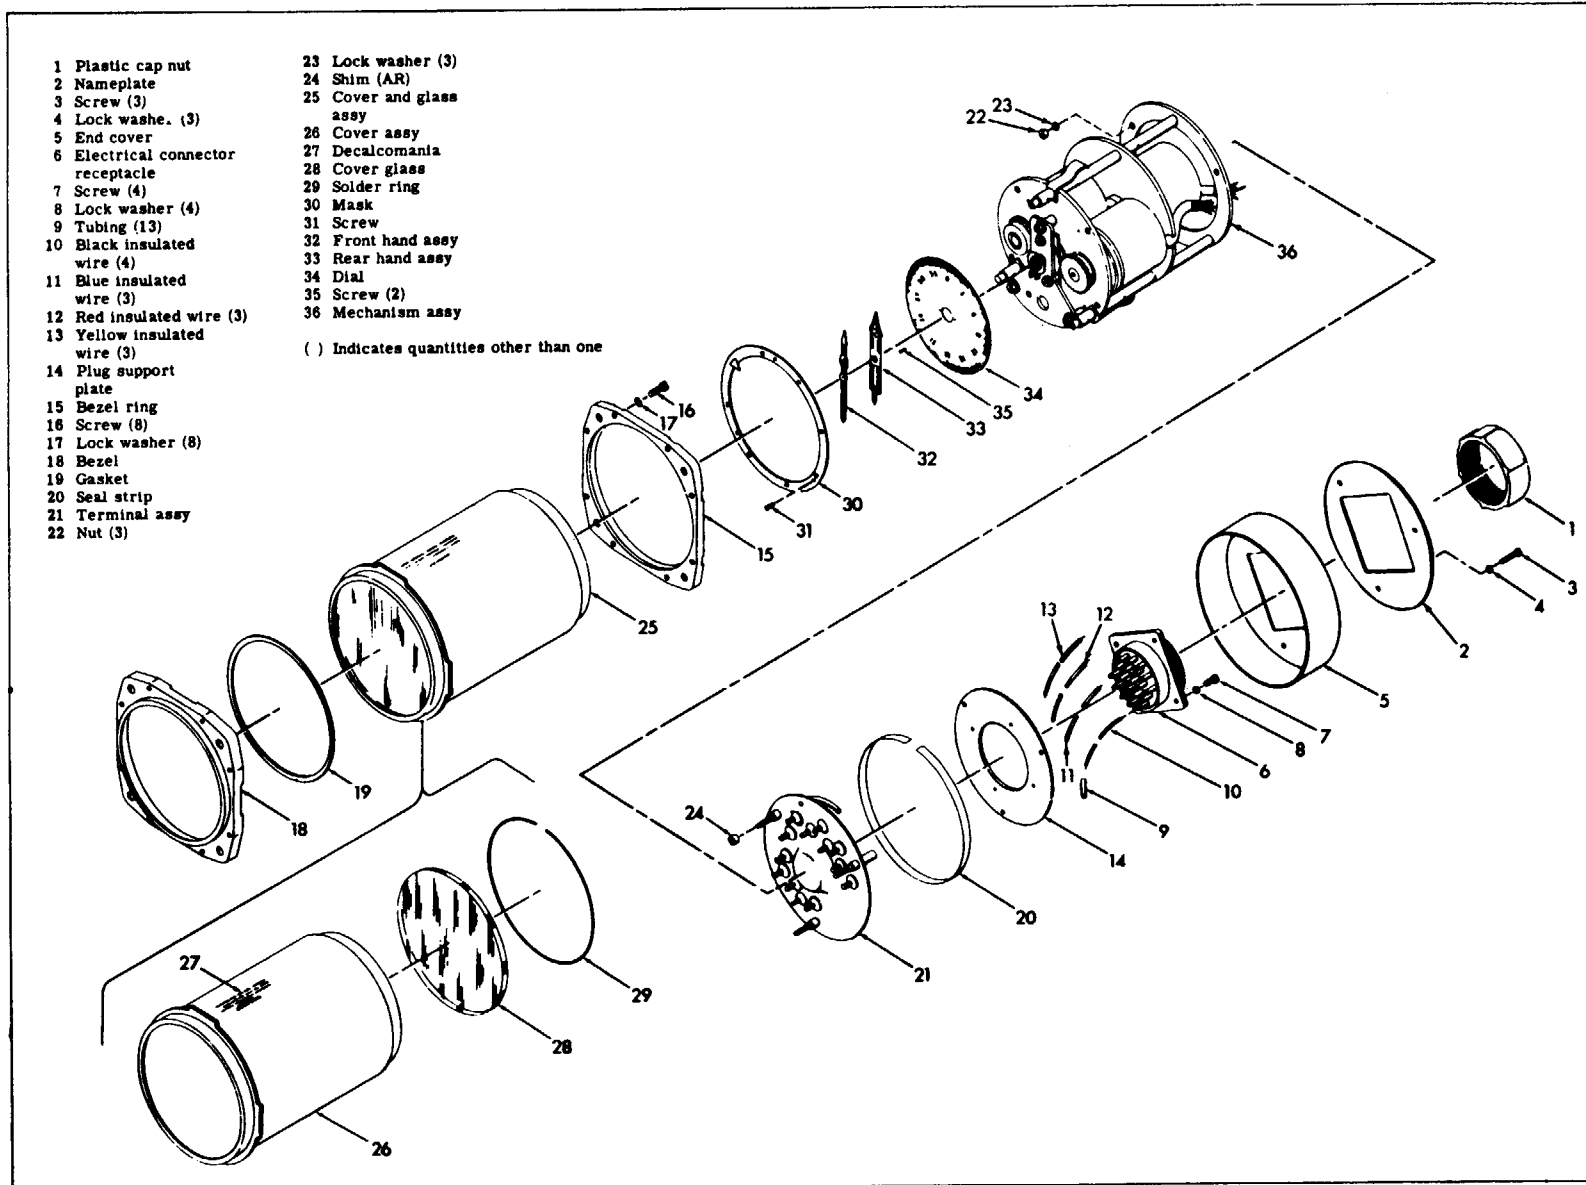
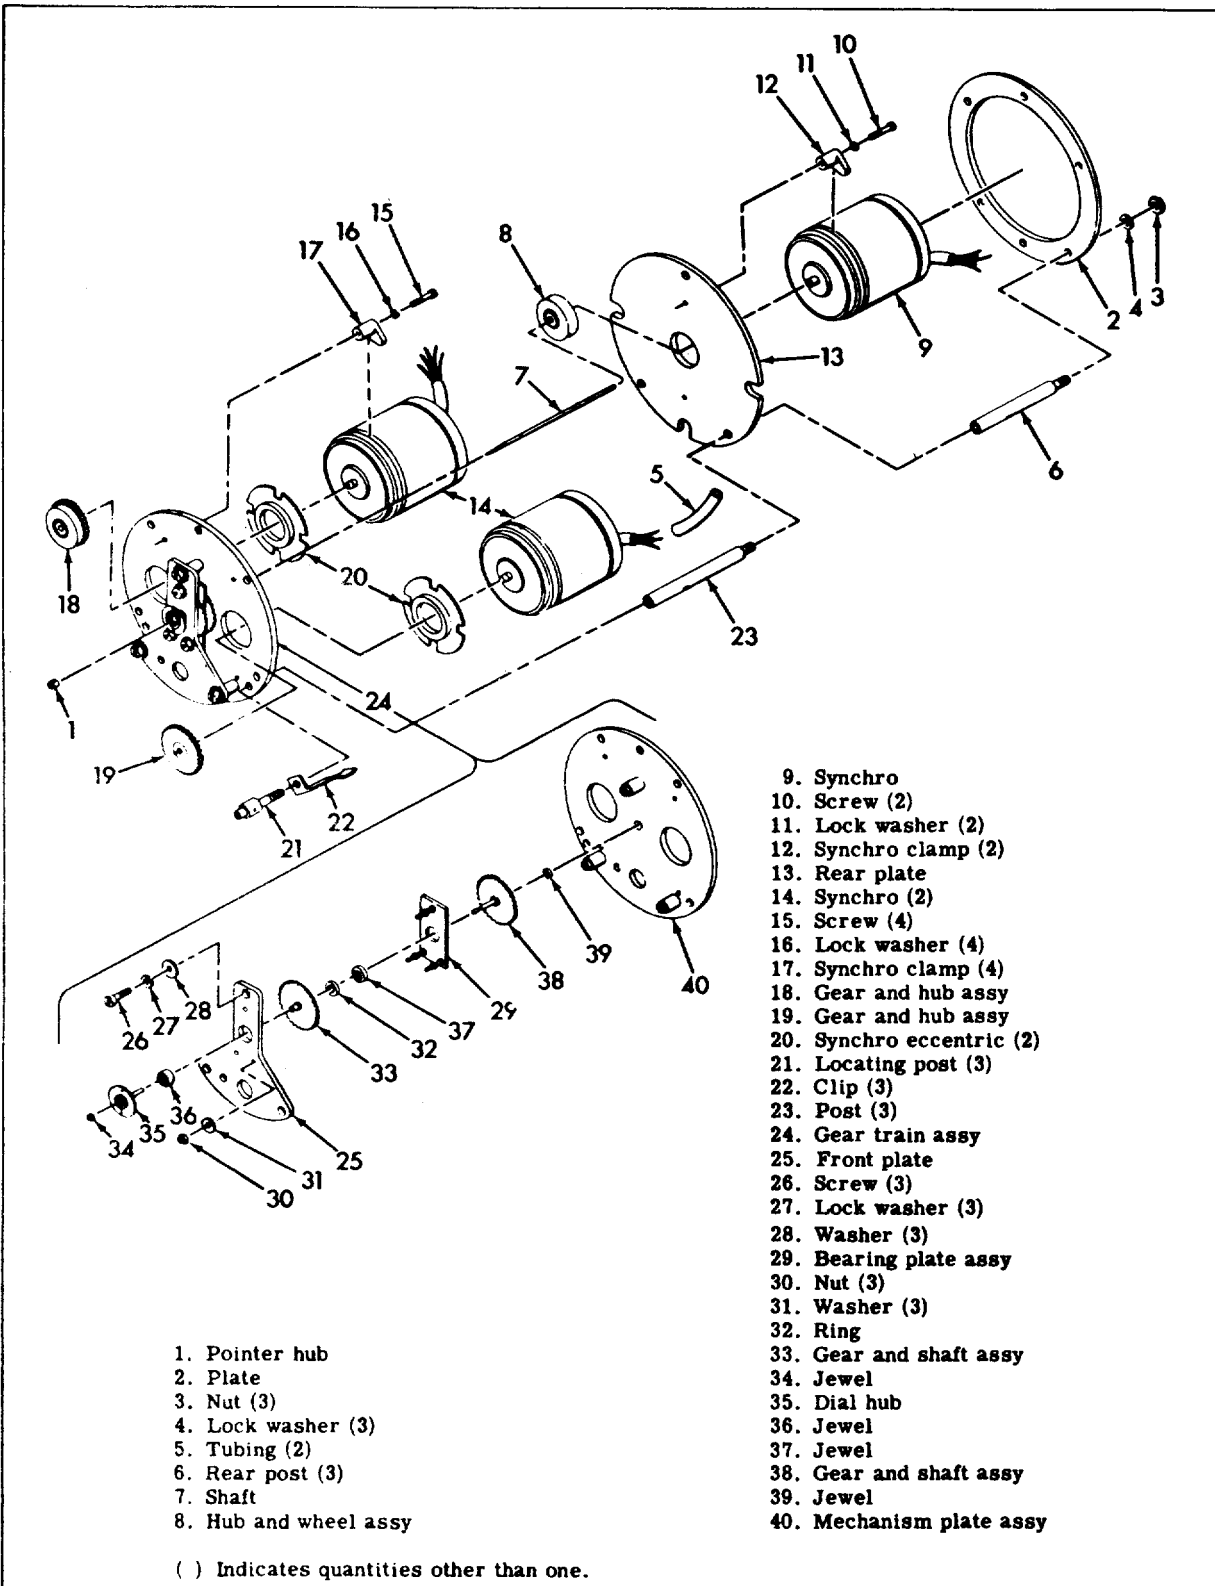

Figure 2-1. Main Assembly, Exploded View
Figure 2-2. Mechanism Assembly, Exploded View
2-6. DISASSEMBLY OF NAMEPLATE, END COVER, AND ELECTRICAL CONNECTOR RECEPTACLE. (See figure 2-1.)
2-7. DISASSEMBLY OF BEZEL, TERMINAL ASSEMBLY, COVER AND GLASS ASSEMBLY. (See figure 2-1.)
**2-8. DISASSEMBLY OF MASK, DIAL, AND HAND ASSEMBLIES. (See figure 2-1.)**
a. Remove three screws (31) and mask (30).
c. Remove two dial screws (35) and dial (34) from mechanism assembly (36).
**2-10. REMOVAL OF REAR SYNCHRO AND REAR PLATE. (See figure 2-2.)**
a. Remove pointer hub (1) from gear and shaft assembly (38). Remove three nuts (3), three lock washers (4), and plate (2). Remove two pieces of tubing (5). With index prism wrench QB3152-1, remove three rear posts (6), and lift off the rear plate and rear synchro with the shaft.
b. Remove shaft (7) from rear synchro (9). Remove two screws (10), two lock washers (11), and two clamps (12), releasing the synchro from rear plate (13). Remove hub and wheel assembly (8) after removing the shaft and before proceeding with the rest of the disassembly.
**2-11. REMOVAL OF FRONT SYNCHROS AND GEAR AND HUB ASSEMBLIES. (See figure 2-2.)**
a. Holding the two synchros (14) in position, remove four screws (15), four lock washers (16), and four clamps (17).
b. Rest the mechanism assembly on the three posts (23), Insert a small drift in the hub of gear and hub assembly (18) and tap gently with a plastic hammer to drive synchro (14) from the assembly.
c. Repeat the procedure described in step b, to remove the second synchro (14) from the gear and hub assembly (19).
d. Remove two synchro eccentrics (20). With index prism wrench QB3152-1, remove three locating posts (21), three clips (22), and three posts (23) from gear train assembly (24).
**2-12. DISASSEMBLY OF GEAR TRAIN ASSEMBLY. (See figure 2-2.)**
a. Remove three screws (26), three lock washers (27), and three washers (28). Lift front plate (25), with attached parts, from the shaft of gear and shaft assembly (38).